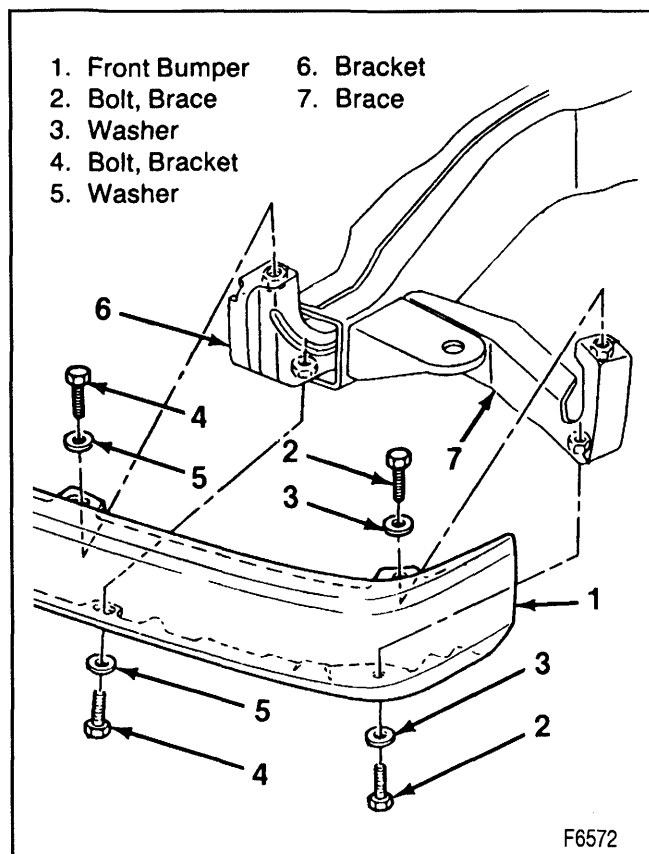

Figure 4—Front Bumper
↔ Remove or Disconnect (Figures 4 and 5)
1. Bumper to brace bolts and washers (figure 4).
→ Install or Connect (Figures 4 and 5)